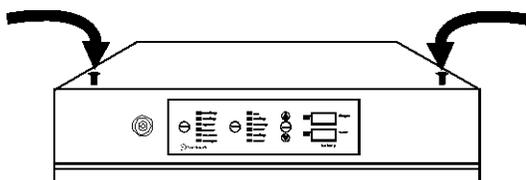

Figure 1-4
1. Unscrew the slotted head screws on the top of the bottom incubator about an inch. Refer to Figure 1-4.
4. Unscrew and remove the leveling feet from the top unit and lift it onto the bottom unit, offsetting the base of the top unit approximately 2-3 inches behind the screws identified by the arrows in Figure 1-4.